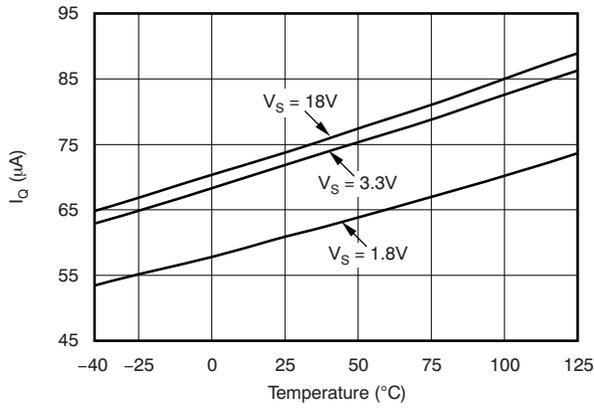

Figure 1.
(1) 100% of production is tested at $T_A = +85^\circ C$. Specifications over temperature range are ensured by design.
(2) Shaded cells indicate characteristic performance difference.
(3) See Figure 1 for typical quiescent current.